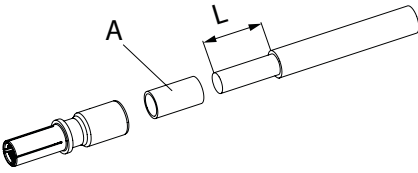

Fig. 29:
If a reduction of the connection cross section is necessary, use reducing bushing (A) (Fig. 29).